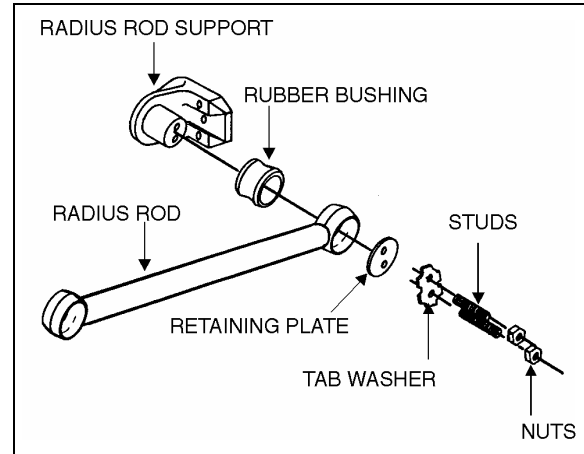

FIGURE 6: TYPICAL RADIUS ROD SETUP 16010
1. Flatten the tab washer which secures the two retaining nuts (or bolts), then unscrew the nuts (or bolts) at each extremity of the radius rod (Fig. 6).